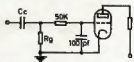

FIG. 4.
2. Insert 50,000 ohm resistor between grid resistor and grid as close to grid pin as possible—in addition bypass with 100 pF. condenser. (Fig. 4.)